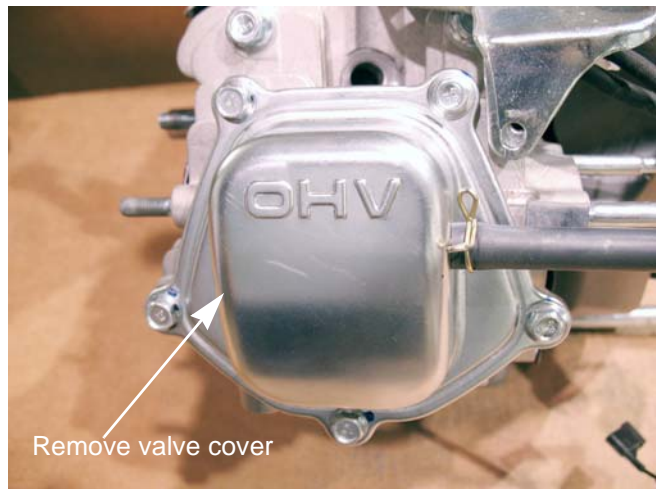

Figure 9.4
9. Remove the five screws securing the valve cover using a 10mm wrench. See Figure 9.4.